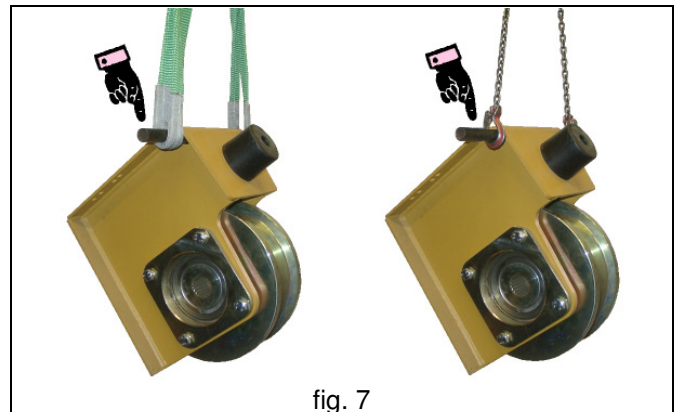

fig. 7
1. **“DGT” wheel groups** are fitted with special holes for handling purposes, situated in the upper section of the wheel bearing flanges, which enable lifting using a transverse bar of suitable diameter, and a lifting accessory (slinging the group using two chains or straps) - (fig. 7).